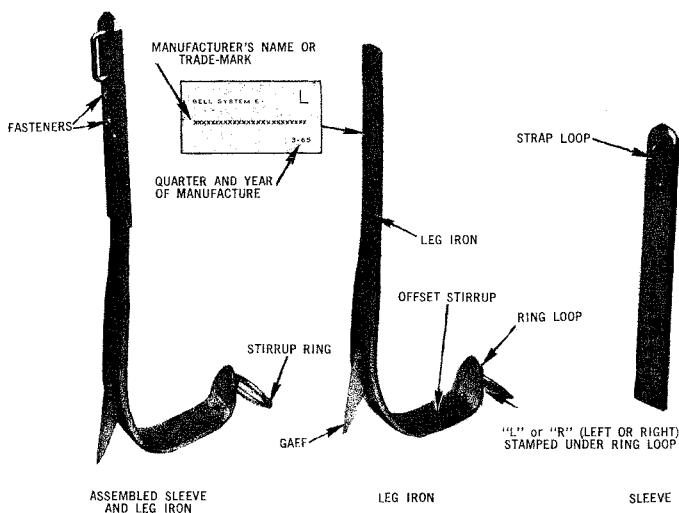
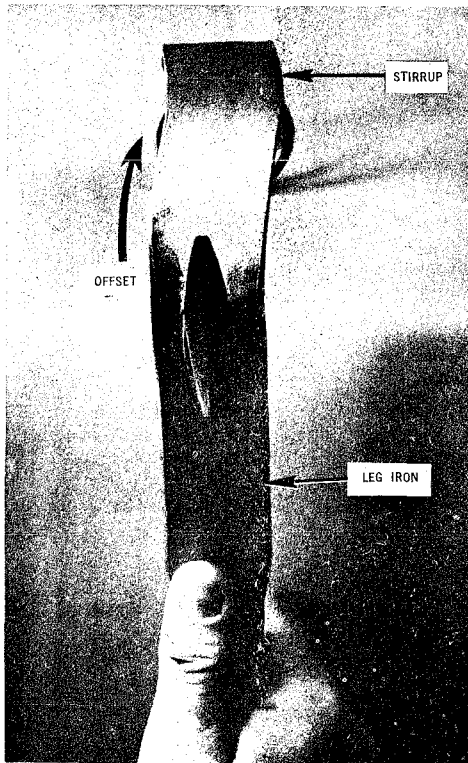

Fig. 1 - E Climber
Fig. 2—Stirrup Offset "Right"
2.01 Adjustable climbers have replaced fixed length climbers. The E Climber, Fig. 1, which supersedes the D climber is changed to use two set screws instead of one set screw and a rivet for attaching the sleeve to the leg iron.
2.02 Adjustable climbers have offset stirrups, therefore, they are made for the right and left foot and are marked "R" or "L" on the appropriate climber as indicated in Fig. 1. These climbers can be identified as right or left by remembering that the offset of the stirrup is toward the front of foot. Another method is to hold the climber with gaff toward you and pointing up, then noting which direction the stirrup is offset. If the offset is to right, it is a right climber as in Fig. 2; if the offset is to left, it is a left climber.